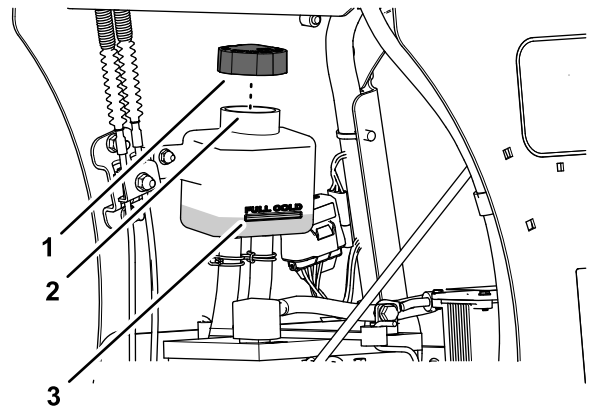

Figure 55
3. Remove the cap from the expansion tank and check the transmission-fluid level in the tank (Figure 55).
4. If necessary, add the specified transmission fluid until the fluid level is at the FULL COLD fill line of the expansion tank (Figure 55).
4. Continue to adding the specified transmission fluid until it reaches the FULL COLD line on the expansion reservoir; refer to Figure 55 in Checking the Transmission Fluid Level \(page 44\).